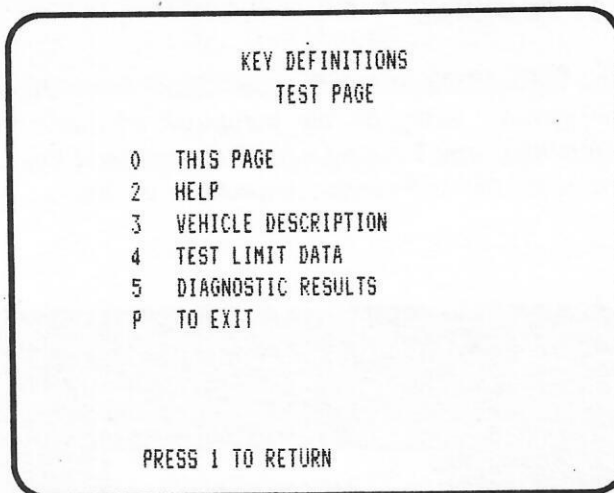

FIGURE 2:2
The on-screen menu shown in Figure 2:2 is available by pressing the (0) key.